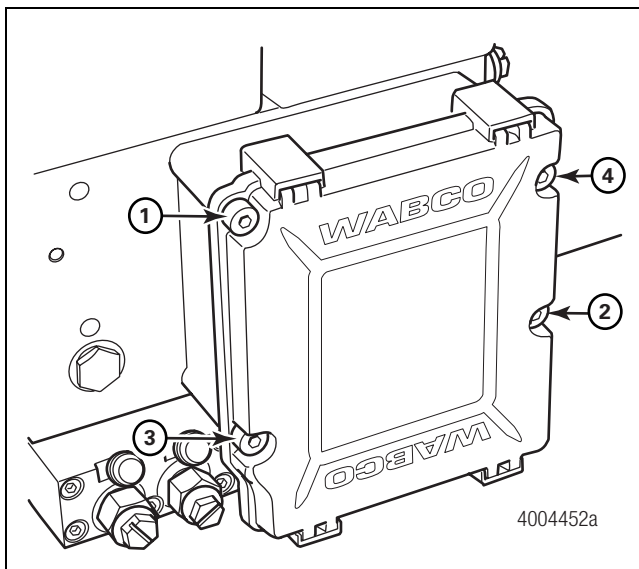

Figure 4.23
3. Use a 4 mm Allen wrench to tighten the four mounting screws that attach the ECU to the HCU. Tighten to 14 in-lb (1.5 N•m). Do not exceed this torque. The metal sleeves on the ECU housing must rest flat on the body of the HCU. Tighten the screws using the correct sequence. Figure 4.23.